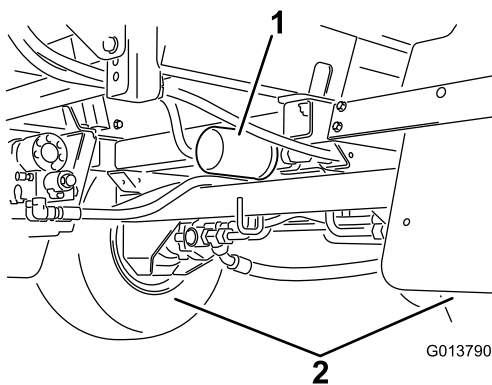

Figure 110
2. Locate the 2 hydraulic filters on the machine (Figure 109 and Figure 110).